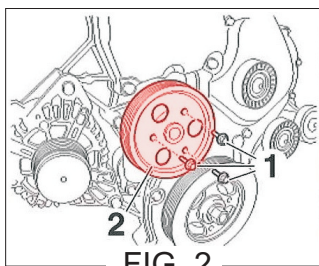

FIG. 2
- 3 Remove the water pump pulley (2) [FIG. 2] and then, remove the water pump (4) [FIG. 3].